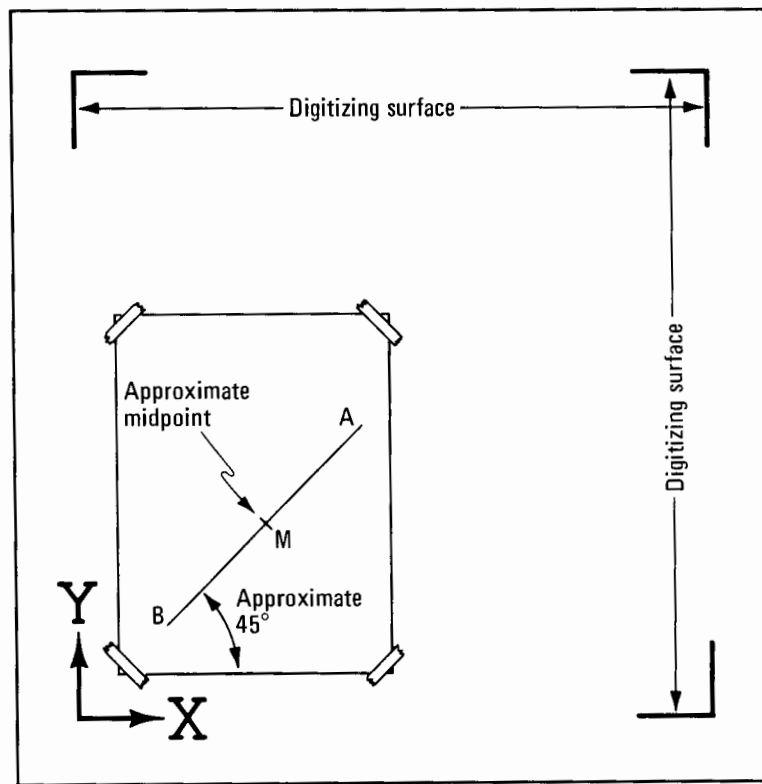

Figure 1. Preparations for the Function Check
2. Referring to Figure 1, place a sheet of $8\frac{1}{2} \times 11$ inch paper on the lower-left hand corner of the digitizing area. Attach the sheet of paper with tape. (The actual position of the paper is not critical.) Using a straight-edge and a pencil, draw a diagonal line on the paper; then label that line as shown in Figure 1.